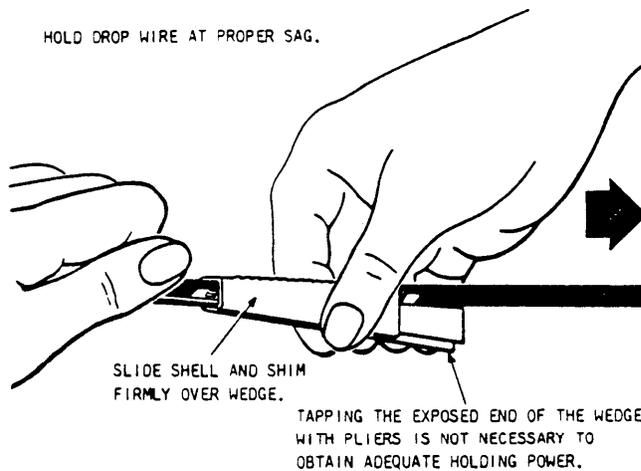
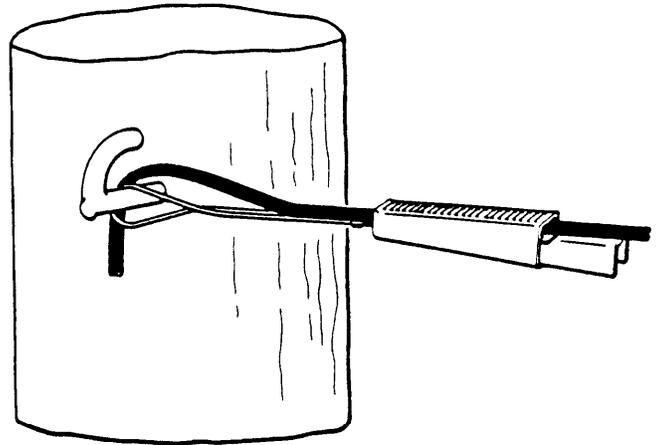

Fig. 13-Completing Installation of
Fig. 14-Drop Wire Clamp Installed
- 4.06 Hold the drop wire at proper sag with one hand while sliding the shell and shim firmly over the wedge as shown in Fig. 13. Figure 14 illustrates the drop wire clamp installed on drive hook.